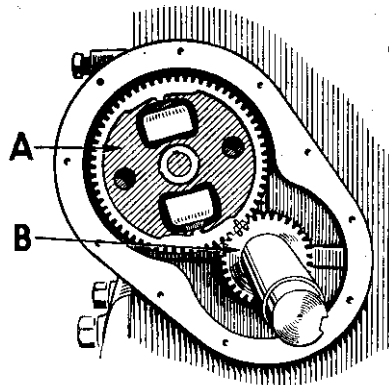

Fig. 9
- iii. Mesh the gears correctly, i.e., the one tooth on the cam shaft gear **A** marked with an "0" should engage between the two teeth on the crankshaft gear wheel **B** similarly marked, see Fig. 9.